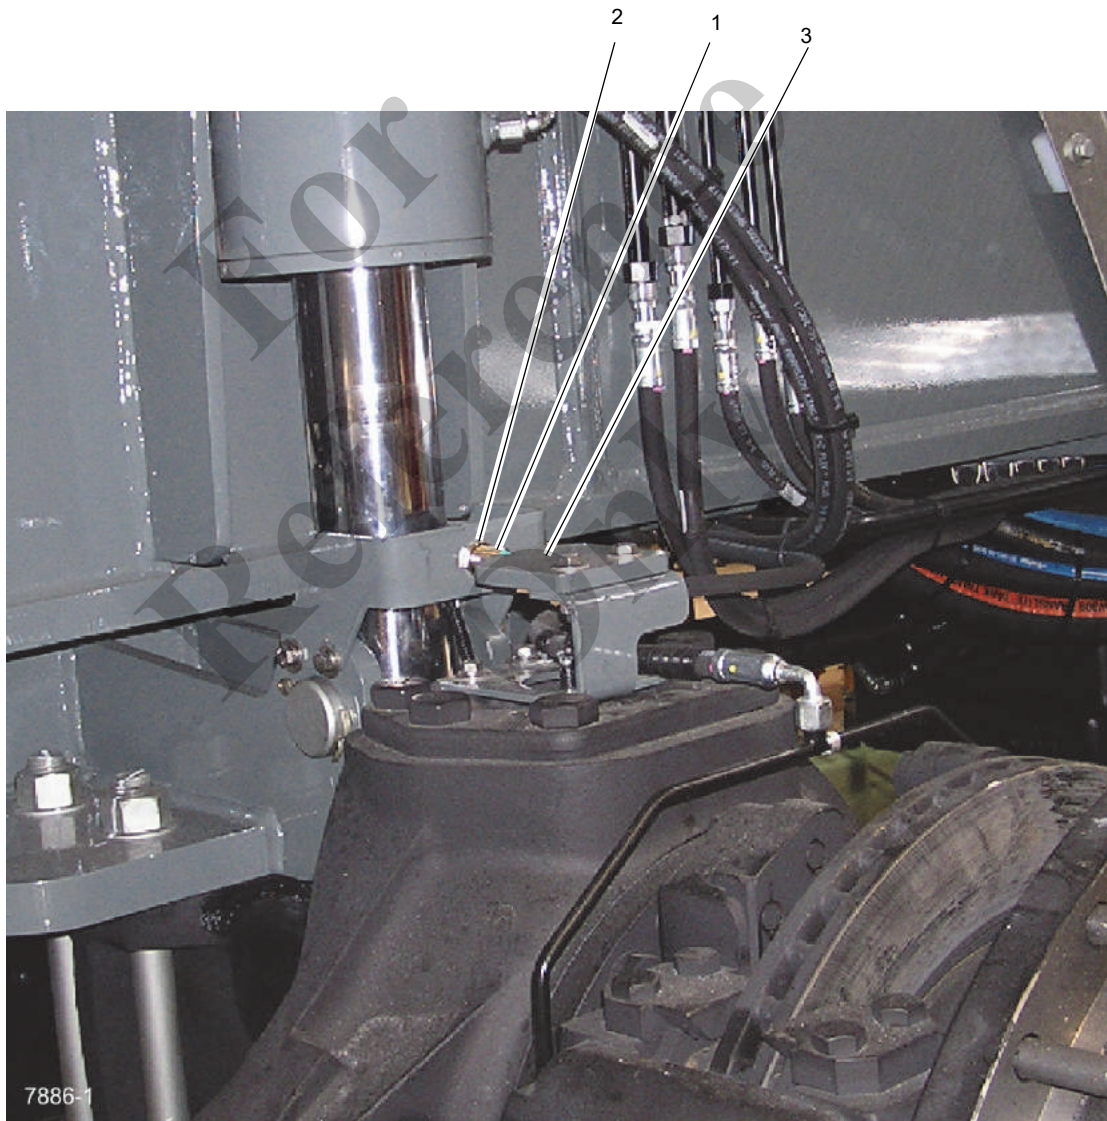

FIGURE 8-1
**NOTE:** Refer to (Figure 8-1) for rear wheels not centered switch adjustment.
2. Ensure a maximum gap of 0.19 in (4.8 mm) exists between the sensor switch (1) and the sensor plate (3). Adjust by loosening the jam nut (2) on the switch and rotating the switch. Tighten the jam nut.